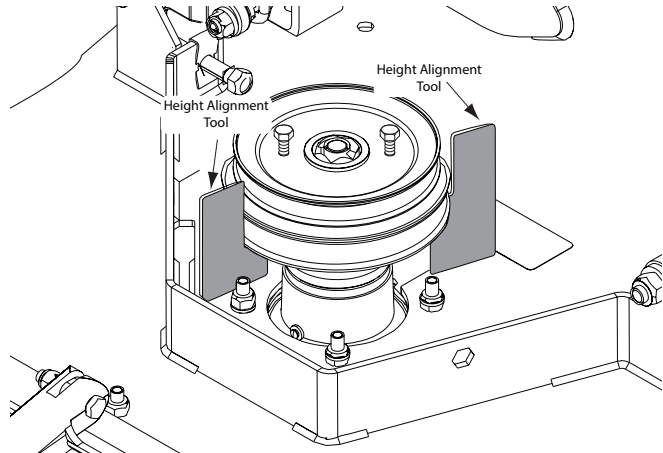
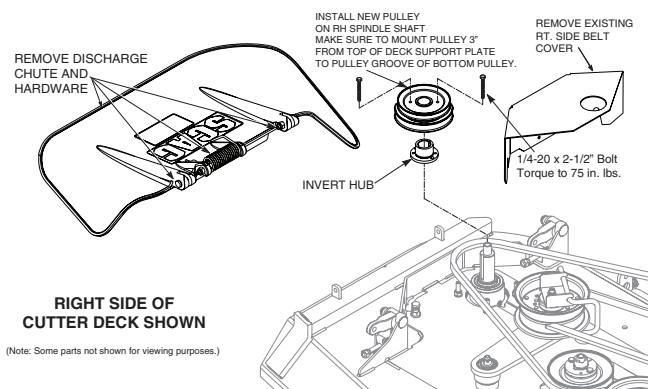

Figure 2-1. Height Alignment Tools
Figure 2-2. Discharge Chute Removal
2. Remove the discharge chute from the cutter deck. See Figure 2-2.
3. Remove the right side belt cover to gain access to the spindle assembly. See Figure 2-2.
4. Remove the belt and install the grass catcher pulley onto the spindle assembly. Make sure to mount the pulley 3" from the top of the deck support plate to the center of the groove of the bottom pulley (use the height alignment tools, included with this kit, for increased accuracy, p/n 428125, See Figure 2-1). Install the pulley with the hub inverted, using 1/4-20 x 2 1/2" bolts (p/n 04001-225). See Figure 2-2. (The height alignment tools may "push out" as the pulley is tightened to the hub, this is normal)